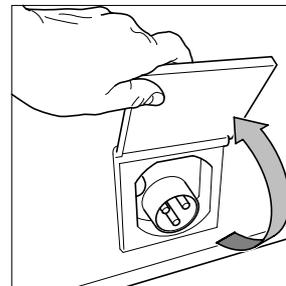

Fig 1
- 6) On the motorhome lift the cover of the electricity inlet located at the rear off side of the vehicle (Fig 1).